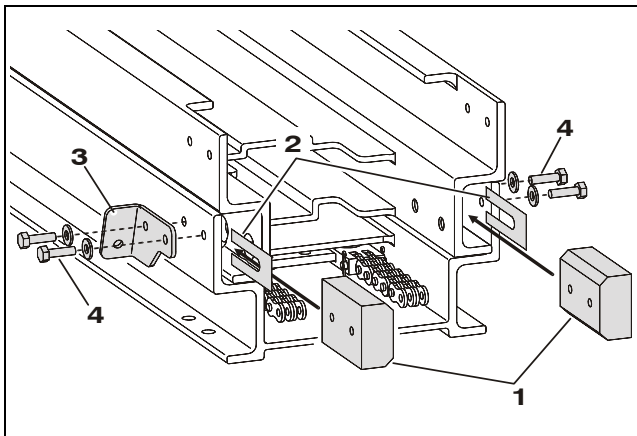

Figure 5-6. Top of Mast Section-2 - Slide Pad Installation
- Place two (2) sheave pin support bars, one each end of sheave pin onto outside of spacer tubes.
- Attach to top of mast section-3 using two (2) 3/8"-16UNC x 1/2" long socket head-countersunk-flathead cap screws, each side. Coat threads with Loctite #171 and tighten.
30. Insert slide pads into the top end mast rails between section-2 and -3, (one on each side of the mast), with beveled surface facing inward towards section-3. (Same as Figure 5-6.)